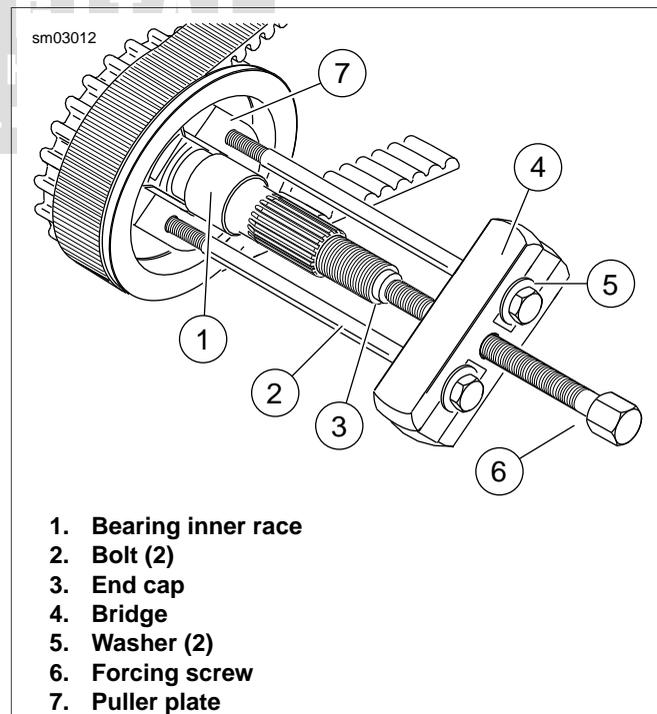

Figure 6-22. Pulling Mainshaft Inner Bearing Race
1. See Figure 6-22. Install washers (5) on bolts (2). Slide one bolt into channel on each side of bridge (4) so that washer is between bridge and bolt head.
2. Thread bolts into stamped side of puller plate (7) an equal number of turns.
3. Apply graphite lubricant to threads of forcing screw (6). Thread forcing screw into bridge (4).
4. Position puller plate between inner race (1) and sprocket nut.